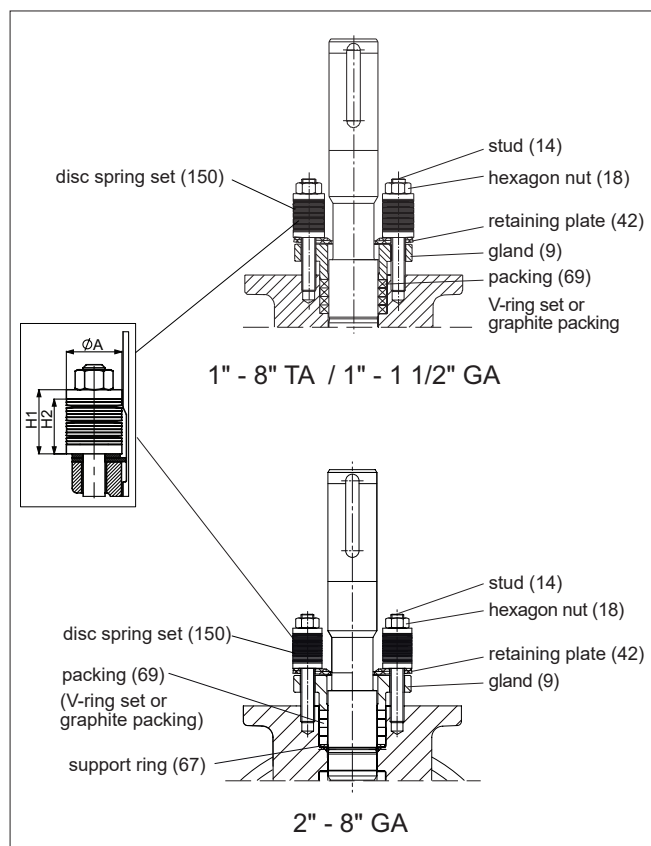

Fig. 13 Packing
- Remove the hexagon nuts (18), the disc spring sets (150), the studs (14), the retaining plates (42) and the gland (9).
- Remove old packing rings (69). Do not damage the surfaces of the packing ring counterbore and shaft.
- Place the new packing rings (69) over the shaft (5). The gland follower may be used for pushing the rings into the counterbore.
- Do not damage packing rings in the shaft keyway. See Fig. 13 for proper orientation. Please note that the support ring (67) may come off as you remove the packing in GA construction 2"-8" (type code 5th sign). It should be placed back in its position before installing the new packing. See Fig. 13. Screw down the removed studs.